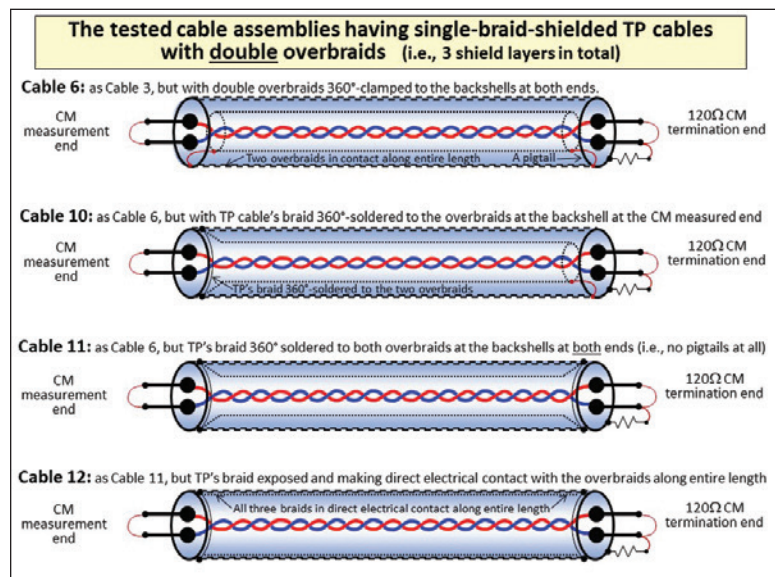

Figure 5: The cable assemblies having single-braid-shielded TP cables with double overbraids (i.e., three braided shield layers in total)
**Cables 6, 10, 11, and 12: single-braid-shielded TP cables with double overbraids (i.e., three shield layers in total) (see Figures 5, 12, and 13)**